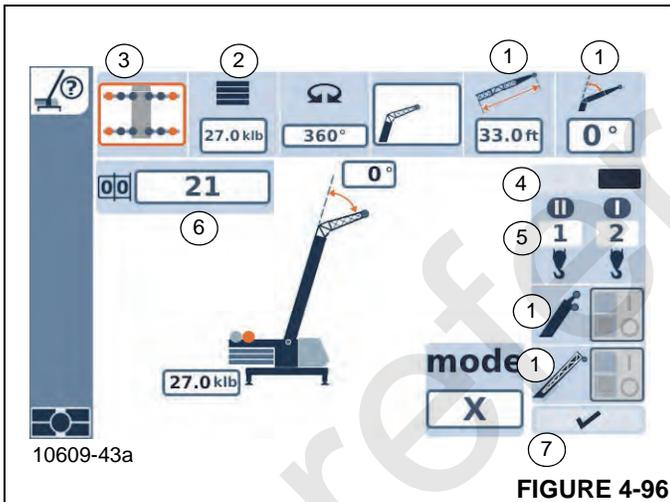

FIGURE 4-96
- Counterweight (2, Figure 4-96)
- Boom system (1)
- Outrigger span (3)